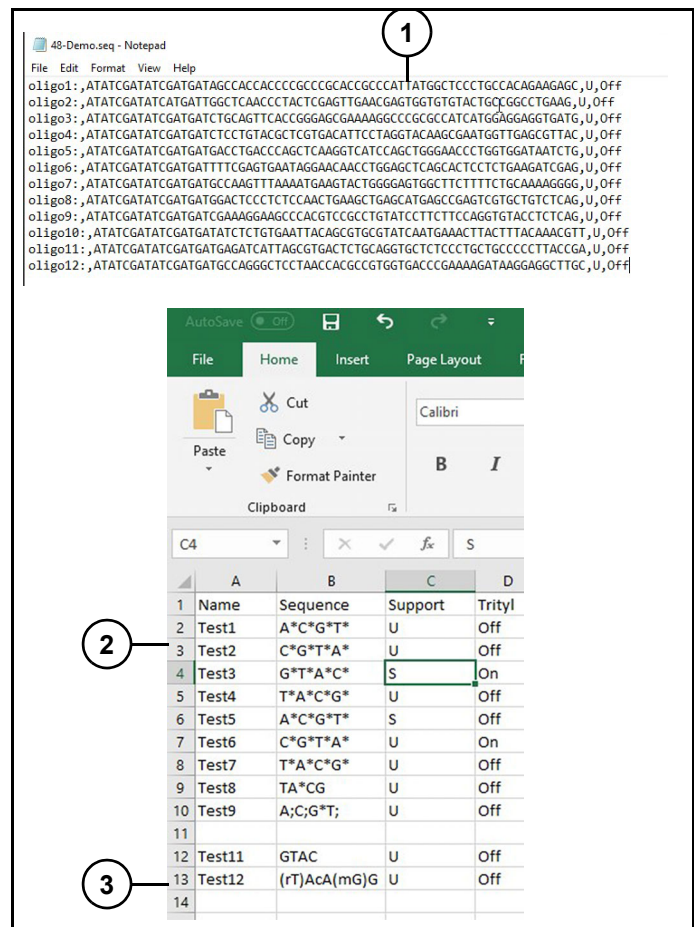

Figure 80
Refer to (Figure 80).
character in length must be bracketed by parentheses as shown on line 13 (3) (Figure 80).